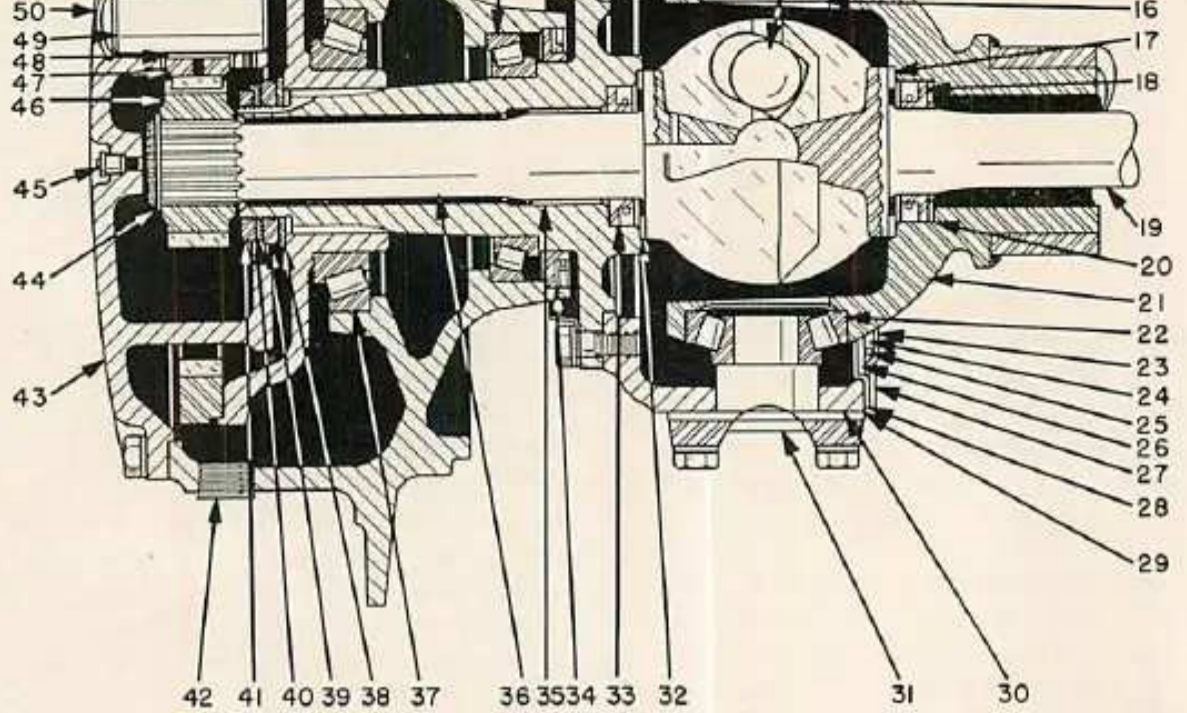
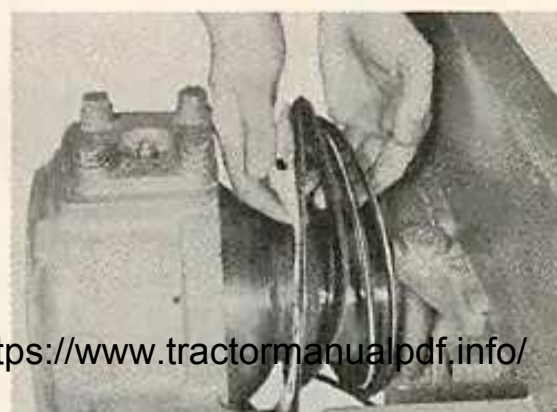

Fig. O18 — Cross-sectional view showing components of front drive axle outer end.
Fig. O19 — Use method shown to check wheel hub bearing preload.
spindle from internal gear hub. Lift internal gear hub and bearing from wheel hub and be careful not to allow bearing to drop from hub of internal gear hub. Complete removal of spindle from wheel hub. All bearings and seals, thrust washers and dirt shield can now be removed and renewed if necessary. Bushing and oil seal in inner bore of spindle (items 33 and 35—Fig. O18) can also be renewed at this time.
Adjust inner nut as required until a pull of 33-38 pounds on a spring scale attached to a wheel stud is required to keep hub in motion. See Fig. O19. Install lockwasher (40—Fig. O18) and outer nut (41). Tighten outer nut and recheck hub rolling torque. When adjustment is correct,